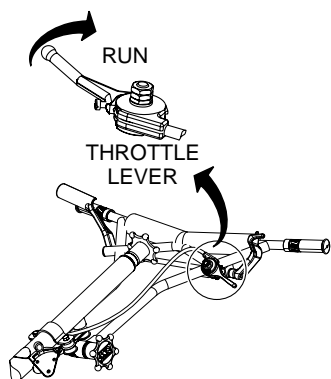

Figure 32. Throttle Lever (Run)
- To begin troweling, place the throttle lever (Figure 32) in the "RUN" position.